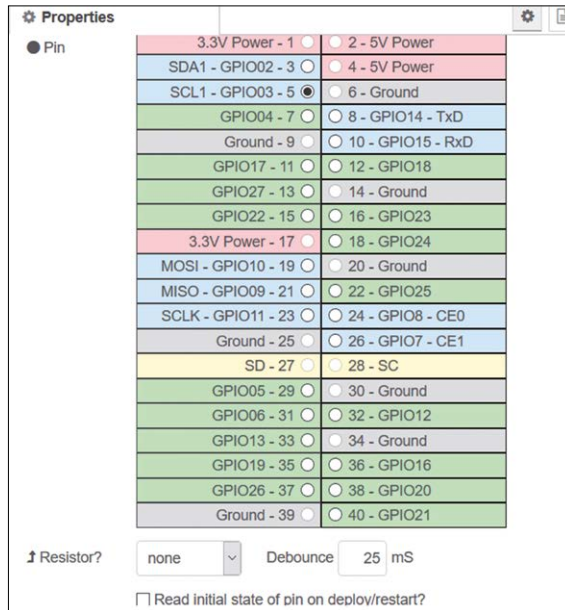

Figure 5.32 Configure the rpi gpio in node
- Click **rpi gpio in** node, drag and drop it to the workspace. Name this node as **GPIO 3** and set it to receive the state of port GPIO 3 as shown in Figure 5.32, click **Done**. This port will receive the state of port pin GPIO 2 which is connected to GPIO 3.